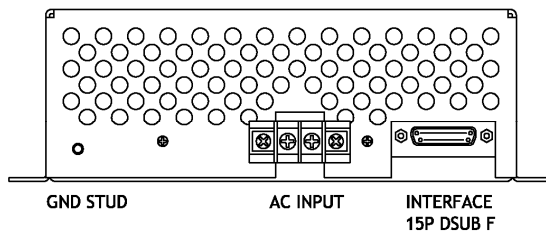

Figure 4
2. **INTERFACE CONNECTION** Connect user system to 15 pin D-sub connector shown in Figure 4. (Although the user interface is typically designed by the user, Lumina Power can provide any assistance necessary to modify interface program and monitor levels) See Table 1 and Figure 3 for description of LDD-600/1000/1500 Interface and the associated simplified interface schematic.